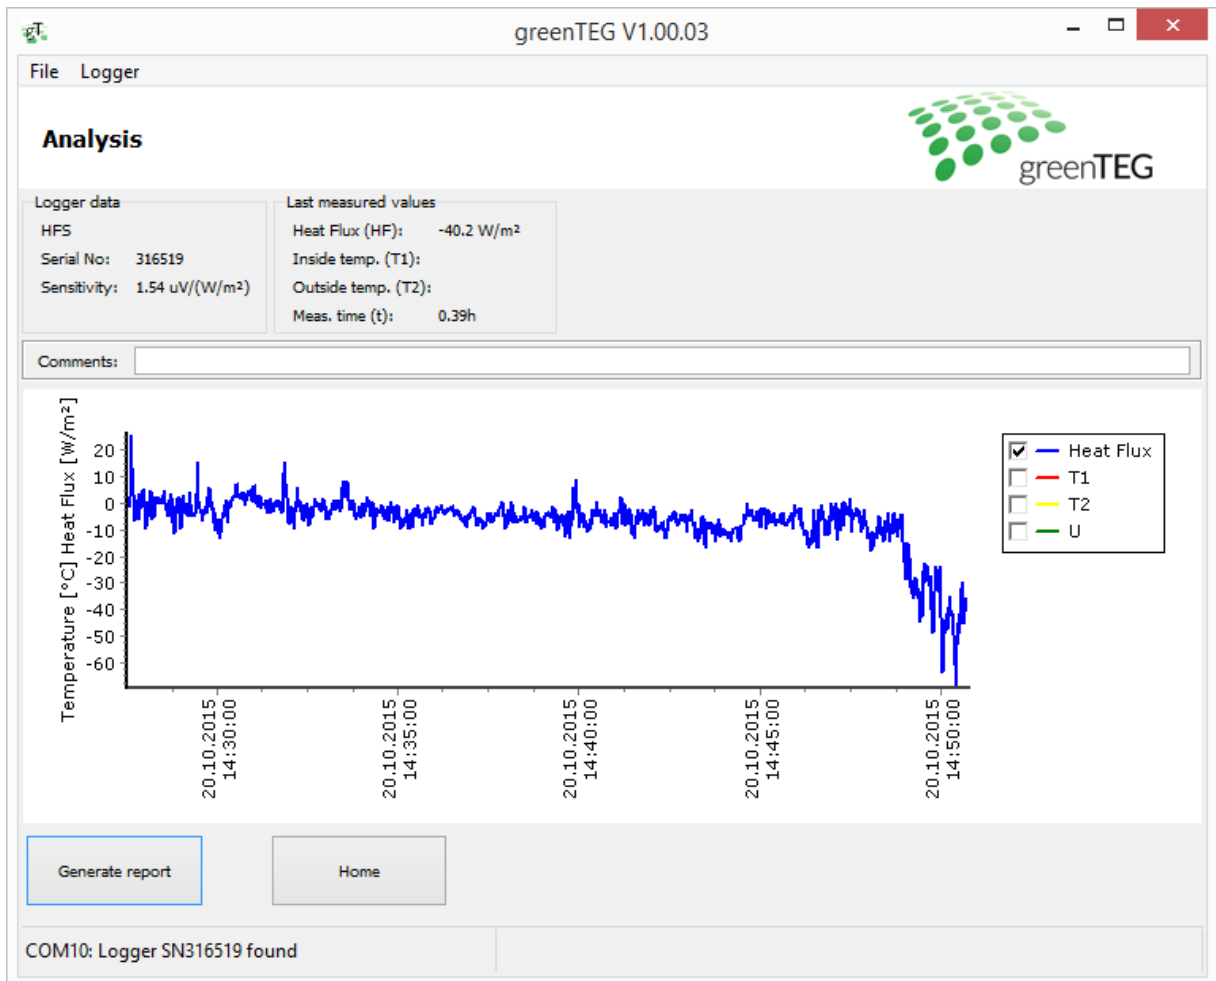

Figure 4: Analysis window showing heat flux output
10. By selecting the latest logging file, you can review the logged data set. In the newly opened window named “Analyse record”, you will find the last measured data points (see figure 4).
11. To save the graph as a PDF or printing it directly, push the “Generate report” button (see figure 4). The “Generate PDF” button generates a PDF file, “Print” leads you to your printing settings.